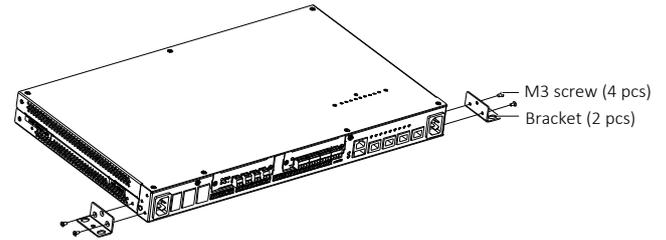

Figure 2-3 Installing brackets
1. Fasten the two brackets (accessories) onto the monitoring equipment with the provided M3 screws, as shown in Figure 2-3.